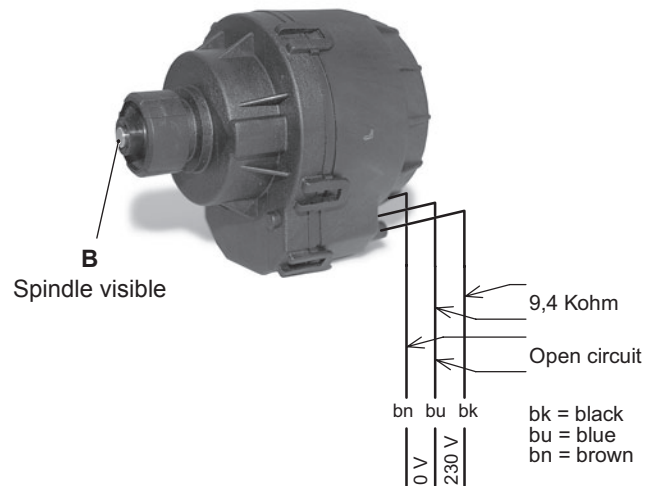

Figure 9.2 D.h.w. mode
Figure 9.2 indicates the relationship between the electric command coming from the electronic control p.c.b. and the position of the actuator B (brass spindle) when the boiler operates in **d.h.w. mode**.
- 3 Remove the fixing spring D and remove the actuator B. Reassemble the actuator carrying out the removal operations in the reverse order. When reassembling the actuator, refer to Figure 9.2 or to the wiring diagram in section "Checks" page 17 for the correct wiring connection.